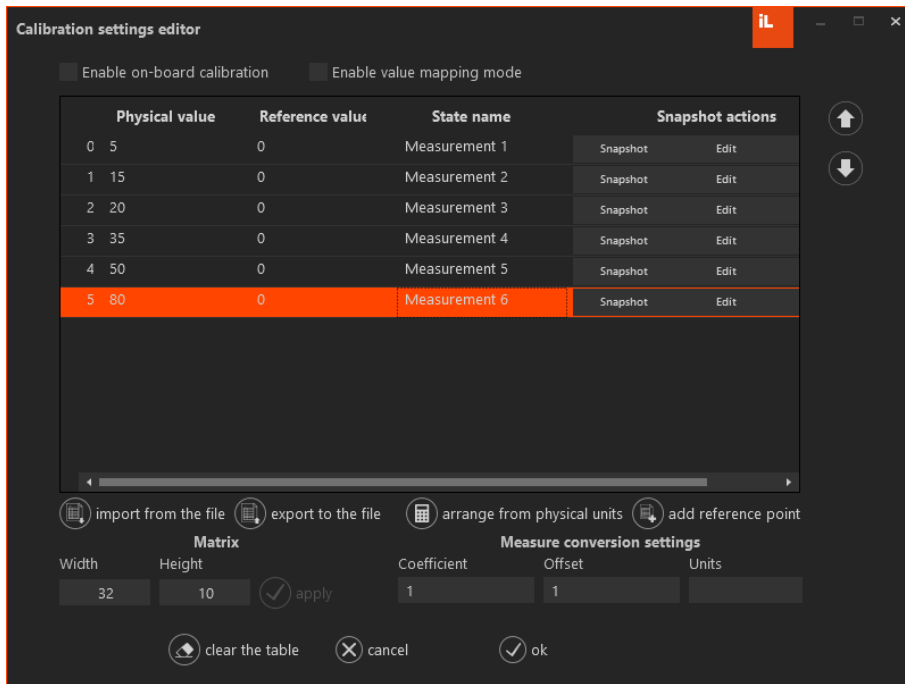

Figure 29: Calibration example step 2
2. Apply several temperatures to the sensor matrix, record snapshots and notate the corresponding temperature values in the *physical value* fields (**Figure 29**).